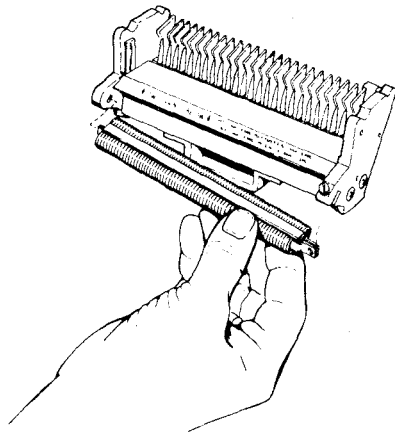

Fig. 19—Set retainer spring to proper wire gauge.
- d. Make sure wire retainer spring is set to proper gauge. To change, loosen wire retainer screw and turn spring assembly to proper size as indicated on the tape and spring face plates. See Figure 19.